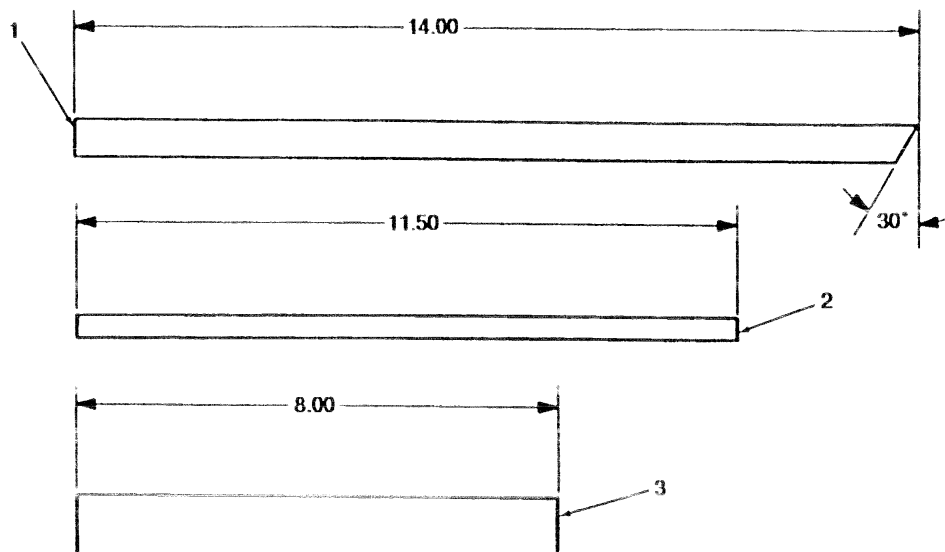
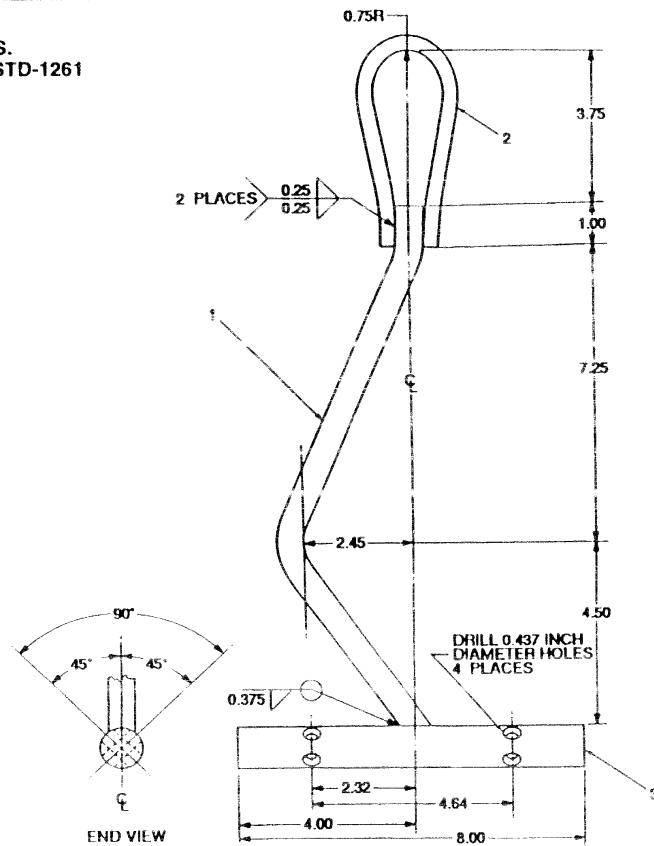

FIGURE 3-20
FIGURE 3-21
1. Using NSN 9510-00-224-1692 metal bar (1), cut a 14.00-inch long section. (see figure 3-20) Bend metal bar (1). (see figure 3-21)
2. Using NSN 9510-00-596-1405 metal bar (2), cut a 11.50-inch long section. (see figure 3-20) Bend metal bar (2). (see figure 3-21)
3. Using NSN 9510-00-287-9402 metal bar (3), cut a 8.00-inch long section. (see figure 3-20) Drill four 0.437-in. diameter holes through metal bar (3). (see figure 3-21)
4. Weld all three metal bars together. (see figure 3-21)